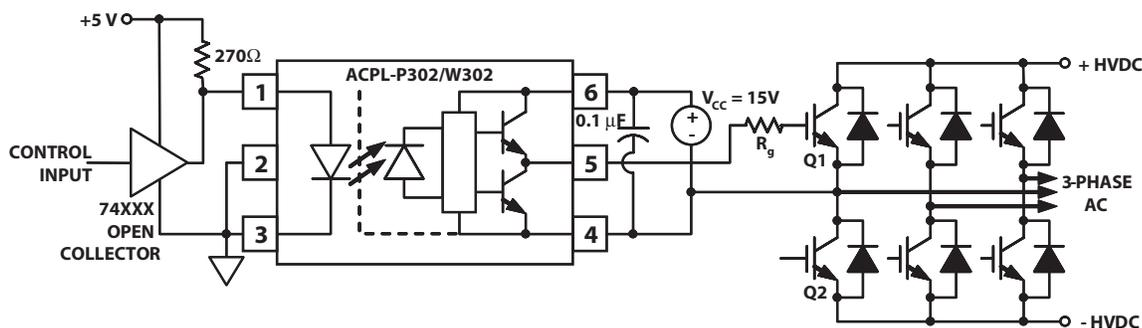
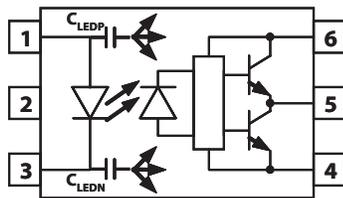
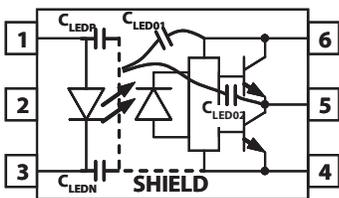
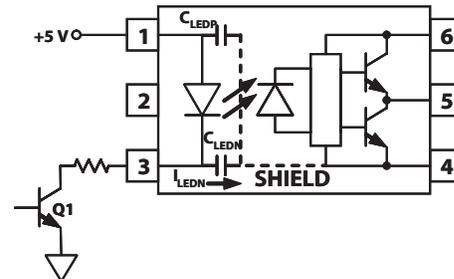

Figure 17. Recommended LED Drive and Application Circuit for ACPL-P302/W302
Figure 19. Optocoupler Input to Output Capacitance Model for Unshielded Optocouplers.
Figure 20. Optocoupler Input to Output Capacitance Model for Shielded Optocouplers.
Figure 22. Not Recommended Open Collector Drive Circuit.
To keep the IGBT firmly off, the ACPL-P302/W302 has a very low maximum V_{OL} specification of 1.0 V. Minimizing R_g and the lead inductance from the ACPL-P302/W302 to the IGBT gate and emitter (possibly by mounting the ACPL-P302/W302 on a small PC board directly above the IGBT) can eliminate the need for negative IGBT gate drive in many applications as shown in Figure 17. Care should be taken with such a PC board design to avoid routing the IGBT collector or emitter traces close to the ACPL-P302/W302 input as this can result in unwanted coupling of transient signals into the input of ACPL-P302/W302 and degrade performance. (If the IGBT drain must be routed near the ACPL-P302/W302 input, then the LED should be reverse biased when in the off state, to prevent the transient signals coupled from the IGBT drain from turning on the ACPL-P302/W302.
Step 1: Calculate R_g minimum from the I_{OL} peak specification. The IGBT and R_g in Figure 17 can be analyzed as a simple RC circuit with a voltage supplied by the ACPL-P302/W302.
where $K_{IC} \cdot Q_g \cdot f$ is the increase in I_{CC} due to switching and K_{IC} is a constant of 0.001 mA/(nC*kHz). For the circuit in Figure 17 with I_F (worst case) = 10 mA, $R_g = 57.5 \Omega$, Max Duty Cycle = 80%, $Q_g = 100$ nC, $f = 20$ kHz and $T_{MAX} = 85^\circ\text{C}$:
Without a detector shield, the dominant cause of optocoupler CMR failure is capacitive coupling from the input side of the optocoupler, through the package, to the detector IC as shown in Figure 19. The ACPL-P302/W302 improves CMR performance by using a detector IC with an optically transparent Faraday shield, which diverts the capacitively coupled current away from the sensitive IC circuitry. However, this shield does not eliminate the capacitive coupling between the LED and optocoupler pins 5-8 as shown in Figure 20. This capacitive coupling causes perturbations in the LED current during common mode transients and becomes the major source of CMR failures for a shielded optocoupler. The main design objective of a high CMR LED drive circuit becomes keeping the LED in the proper state (on or off) during common mode transients. For example, the recommended application circuit (Figure 17), can achieve 10 kV/ μ s CMR while minimizing component complexity.
The open collector drive circuit, shown in Figure 22, can not keep the LED off during a $+dV_{CM}/dt$ transient, since all the current flowing through C_{LEDN} must be supplied by the LED, and it is not recommended for applications requiring ultra high CMR_L performance. The alternative drive circuit which like the recommended application circuit (Figure 17), does achieve ultra high CMR performance by shunting the LED in the off state.